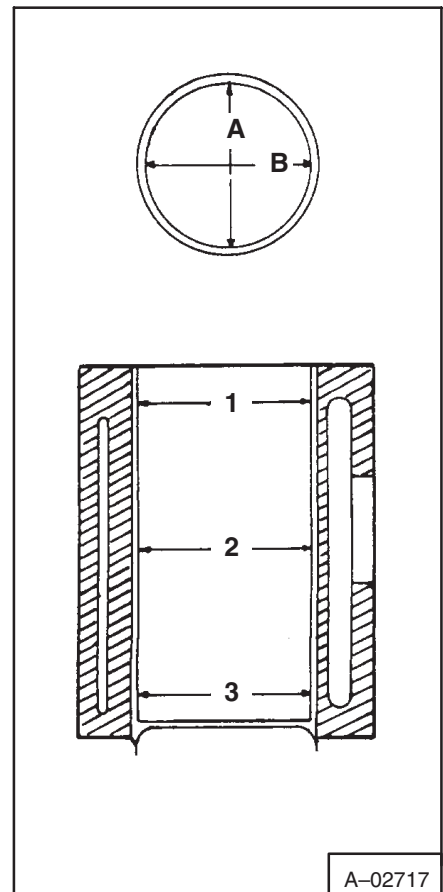

**Fig. 7C-86** Checking Cylinder Wear
2. To find the maximum wear measure inside diameter of the cylinder liner in three different locations (Fig. 7C-87). The inside diameter specification on the cylinder liner is 3.3465 – 3.3473 inches (85 – 85,022 mm), with an allowable wear limit of +0.0059 inch (+0,15 mm).